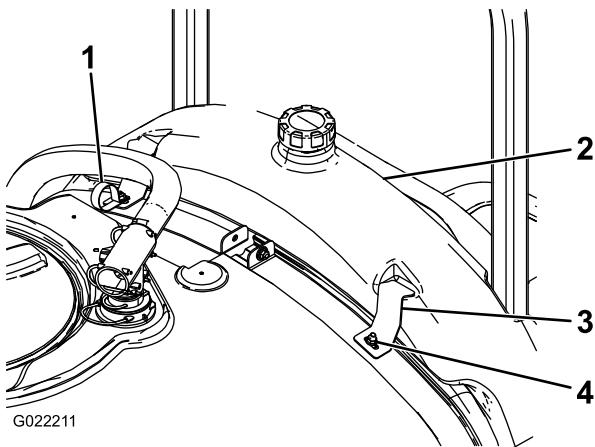

Figure 3
2. Install the rinse tank as shown in Figure 3.
3. Using 2 large washers and flange nuts, install the rinse tank brackets and R-clamp to the previously installed carriage bolts (Figure 3).